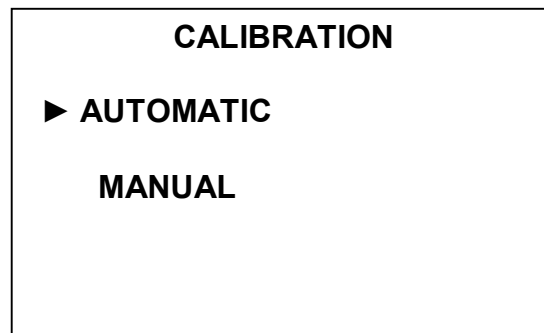

Fig. 2.15
- 1 Press the key . The display shown in Fig. 2.15 shall come up.
**1** Analyzer calibration against CGM may be cancelled prior to operation 4, depressing the key . The analyzer shall go over to the display shown in Fig. 2.15 and save calibration coefficient values of the previous calibration.